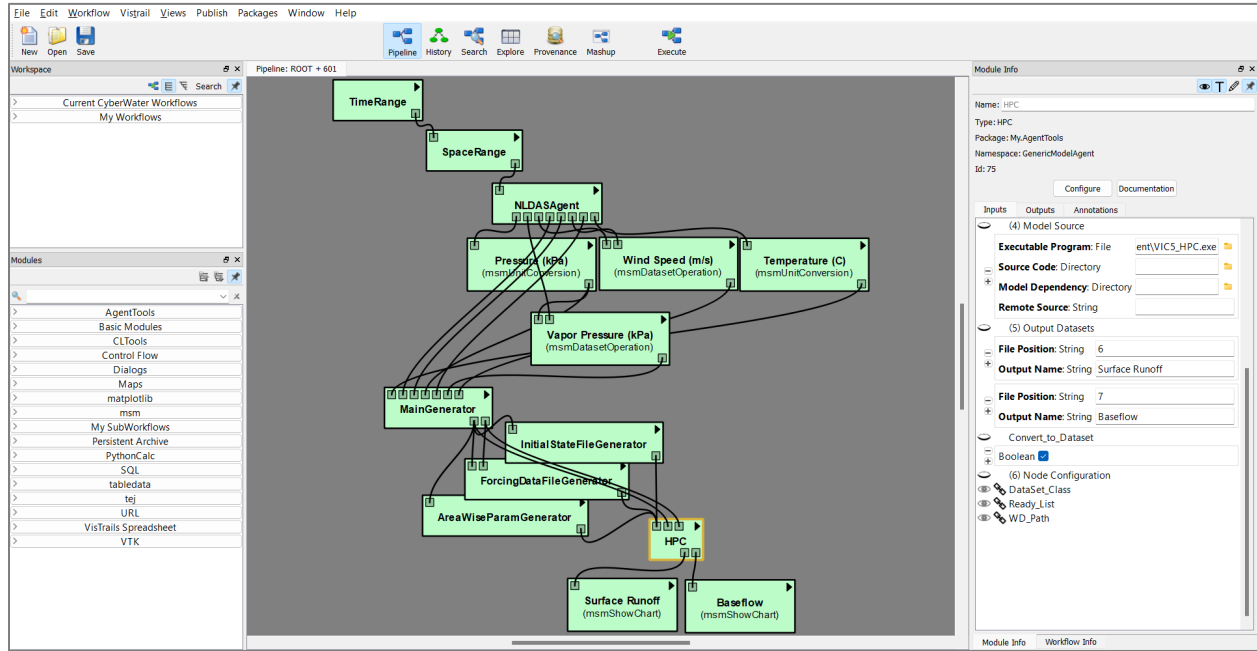

Figure 78. Complete workflow with *mmsShowChart* module boxes connected to the first and second output ports of HPC module
- Enable the 'Output02' output port on the HPC module by clicking on "Outputs" and then clicking the icon in front of 'Output02'. Add 2 *mmsShowChart* modules to plot the data, with "Surface Runoff" and "Baseflow" as *variable\_name* and with mm/hr as units. Connect the first and second outputs of the HPC. The resulting workflow is shown in Figure 78. The workflow in Figure 78 can be downloaded from CyberWater website <10. VIC5 Model Simulation in High-Performance Computing Platform>.